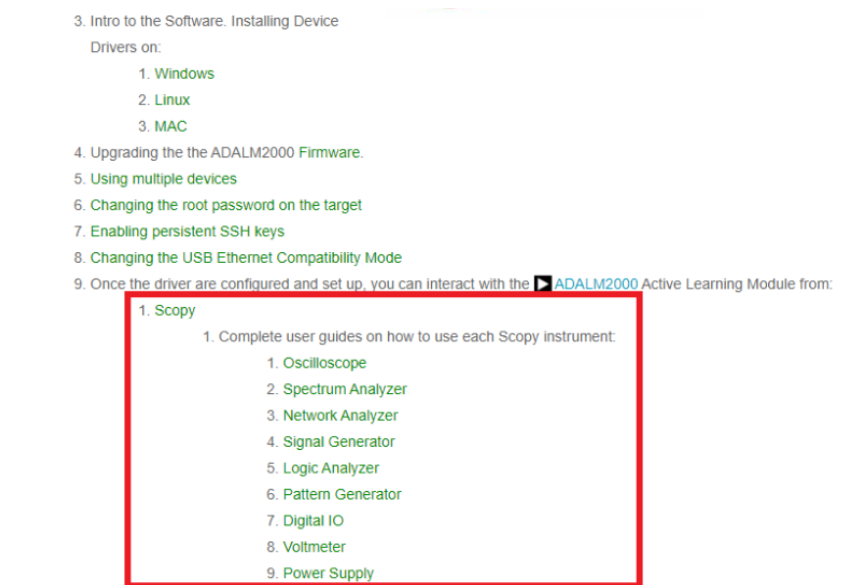
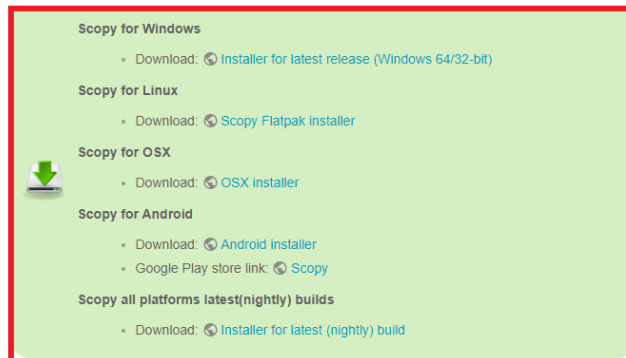

Figure 6. Installing Scopy
Figure 7. Different Versions of Scopy
- c. After installing the device drivers, go back to the wiki page, refer to point #9 (see Figure 6), and click Scopy. Upon clicking Scopy, it gets redirected to a new page where the user can download and install the version applicable for the operating system as shown in Figure 7. After installing Scopy, a system reboot is required.